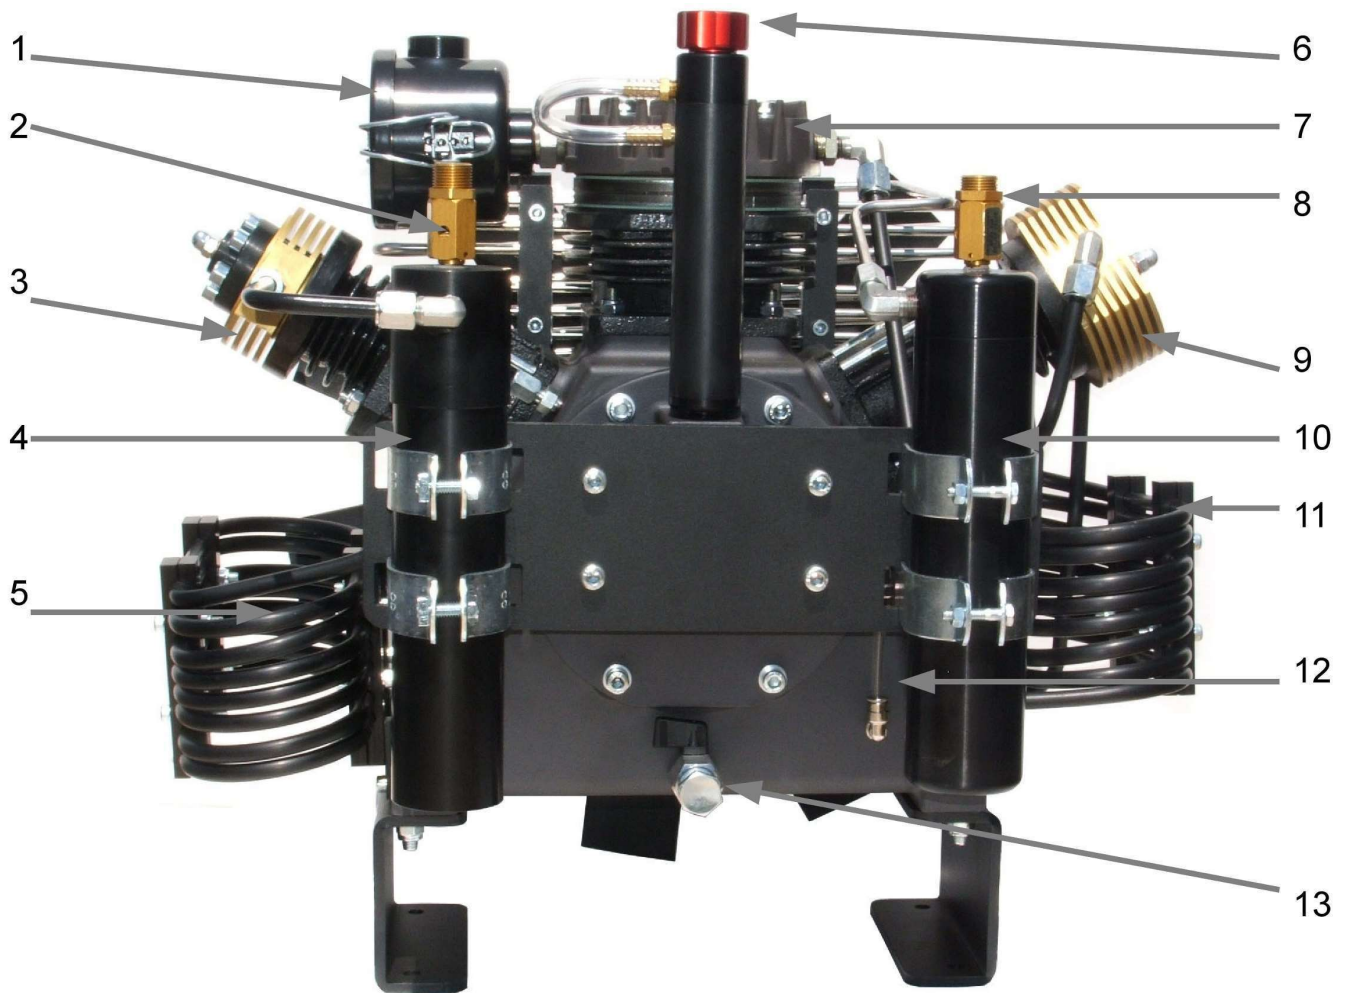

Figure 4.3: A1000/1060 Series Block Components
1. Open the oil fill cap (Figures 4.3 and 4.4)
1. Position a pan below the oil drain (figures 4.3 and 4.3)